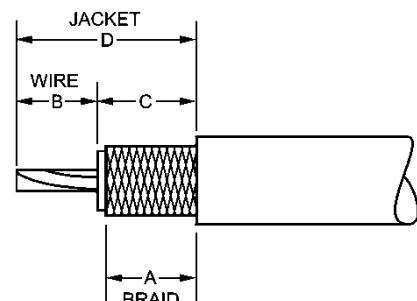

Figure 10-68 Stripping Dimensions for Coaxial Cable in Table 10-27
- (4) With crimping tool handles fully open, rotate contact locator-stop knob (on back of tool head) to open position. (See Figure 10-68)
- (5) Insert centre conductor of coaxial cable into centre contact wire barrel until cable dielectric butts against rim of wire barrel. Then place contact in tool head as shown in Figure 10-68.
- (6) Close tool handles until ratchet releases. Tool ratchet will not release and handles will not open until full crimping cycle has been completed, assuring proper depth of crimp indent.